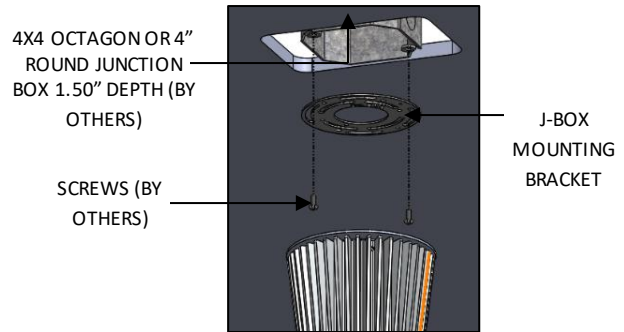

FIG. 8- J-BOX MOUNTING PLATE INSTALLATION
2. Attach MOUNTING BRACKET TO JUNCTION BOX (BY OTHER) as shown below in FIG. 8.